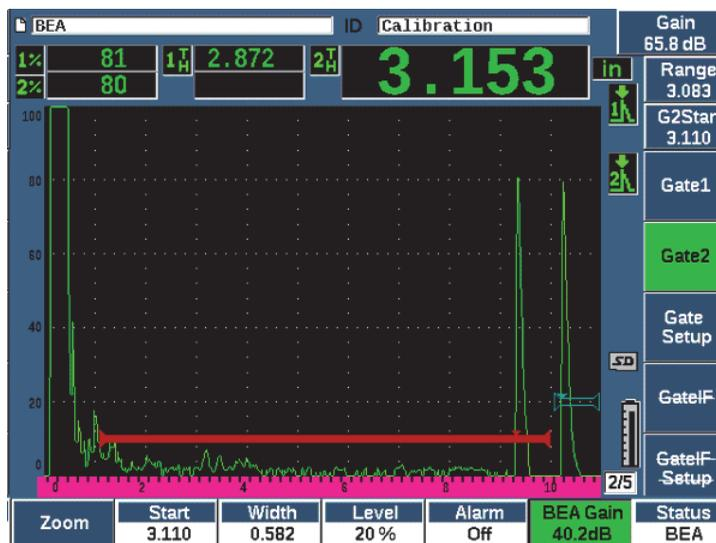

Figure 11-32 Adjusting back wall gain
2. Manually adjust the gain or press 2ND F, (AUTO XX%) to automatically adjust the echo in the BEA gate to the reference height (XX%) (see Figure 11-32 on page 270).